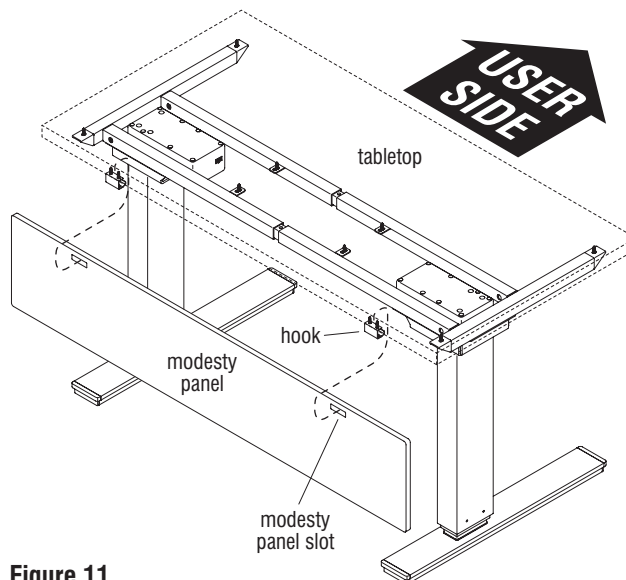

Figure 11
3. Position the modesty panel underneath the back, non-user side of the tabletop, near the hooks. Using the slots on the panel, hang the panel onto each hook (Figure 11, Details H & I).